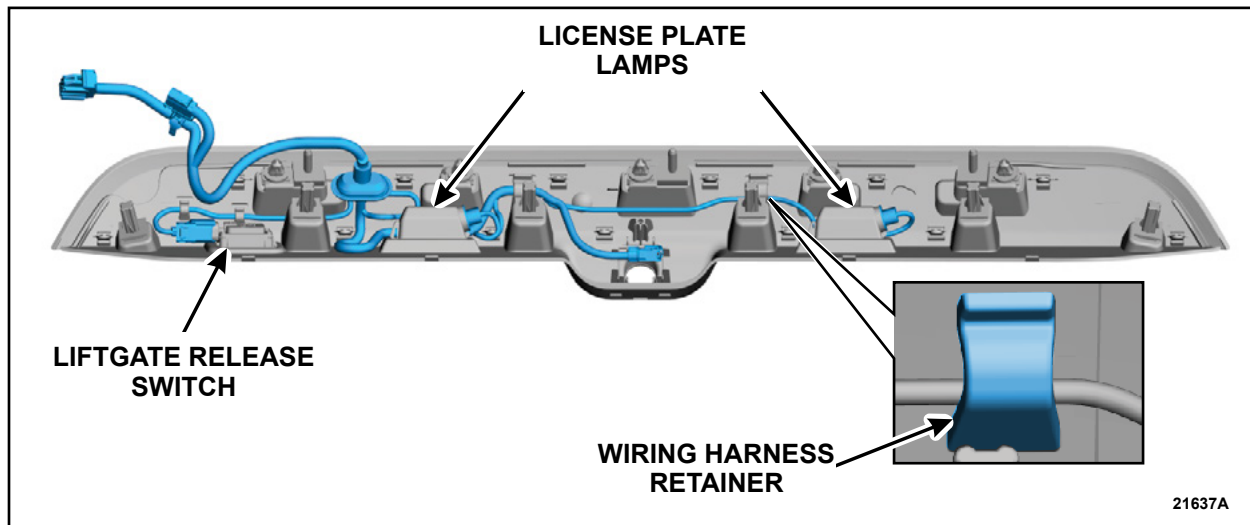

FIGURE 18
5. Remove and discard the rear view camera liftgate molding wiring harness assembly. See Figure 18.